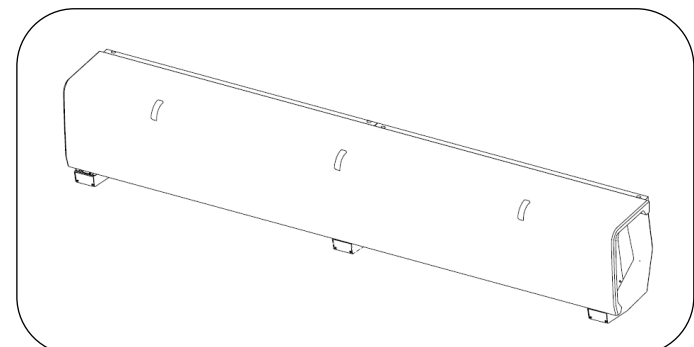

Fig. 16
18. Install optional skatestops, see Fig. 16. Refer to plan drawings for location. Recommend maximum 36" spacing. Install on clean, dry concrete using Loctite as instructed. Wipe away excess epoxy before it cures.